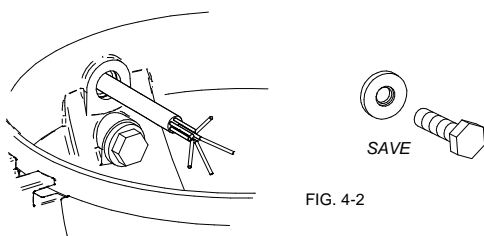

FIG. 4-2
2. In the bottom section, remove and **SAVE** the 1/4-20 x 1" screw and washer. (FIG. 4-2)